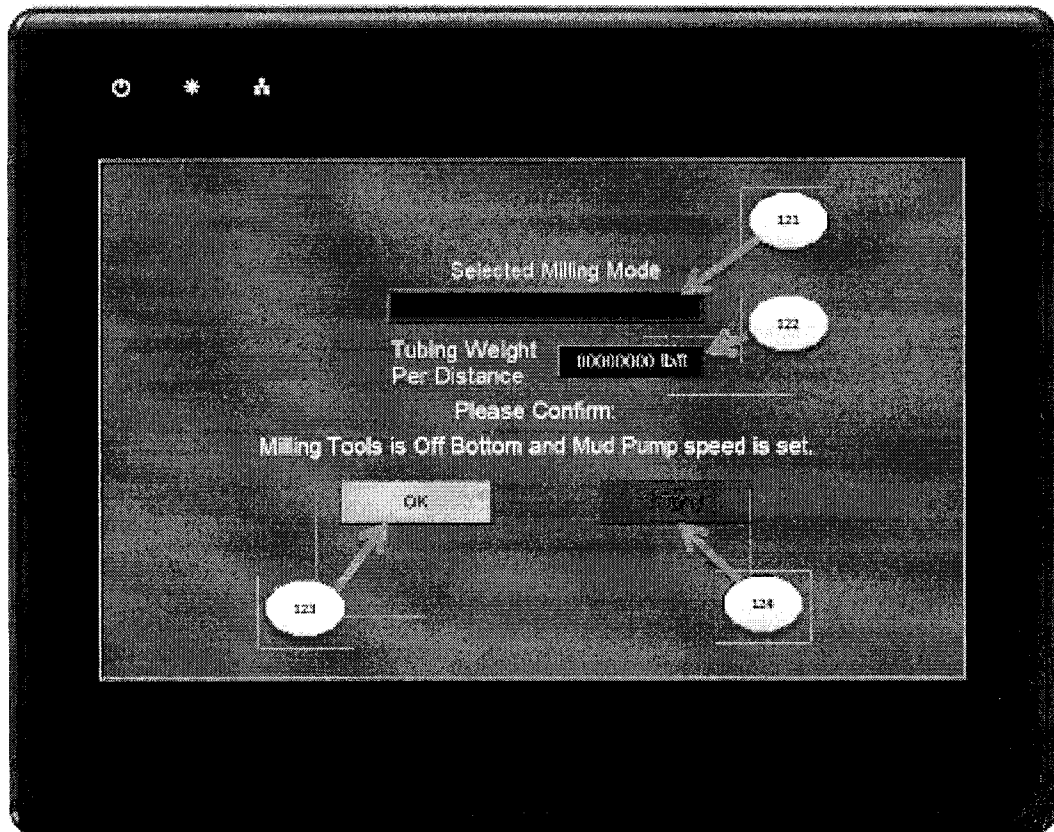

Figure 13
- the detailed description makes reference to Fig. 13 only in par. [0361], and without any reference to the elements in the figure;